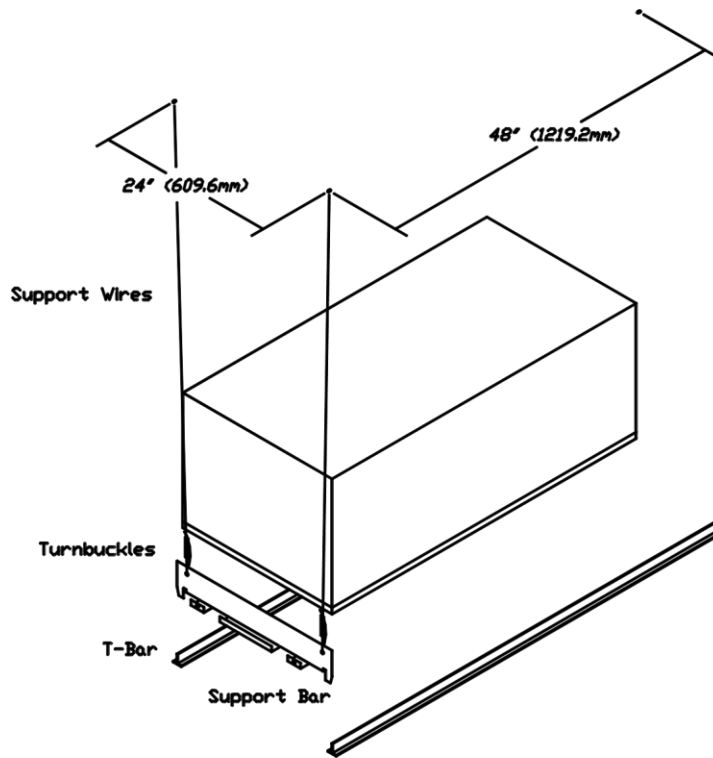

FIGURE 1
1. Attach four galvanized steel support wires to the true ceiling at the location shown in Fig. 1. Twist each wire at least four times to provide safe support for the air cleaner. The free wire end should extend six inches or more below the bottom of the T-bars.
2. Place the two hanger brackets on both ends of the T-bar with the "J" shaped portion of the hanger brackets facing towards the inside of the opening. See Fig. 1.
4. Hook the turnbuckles to the hanger brackets and then secure the support wires to the eyes of the turnbuckles. Twist the wire at least four times. See Fig. 1.